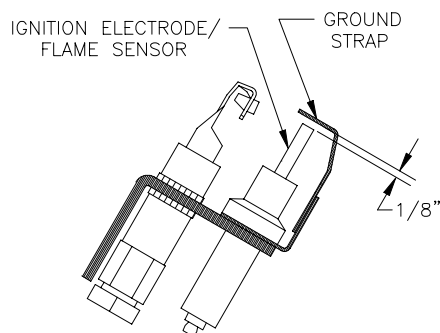

Figure 65: Honeywell Q348 Spark Gap
G. Remove Pilot Assembly for Servicing. Remove machine screw(s) holding pilot burner to pilot bracket, after first removing burner with pilot assembly as described in Step F, number 8 above. To adjust or check spark gap between electrode and hood on Honeywell Q348 intermittent (EI) pilot, see Figure 65.